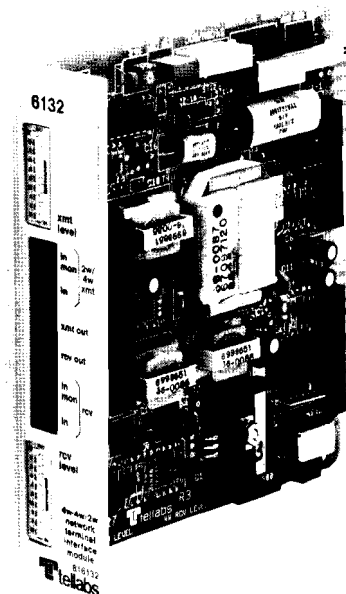

figure 1. 6132 2Wire-to-4Wire or 4Wire-to-4Wire
1.01 The 6132 2Wire-to-4Wire or 4Wire-to-4Wire Network Terminal Interface Module (figure 1) provides transmission interface between a 2wire or 4wire metallic facility and a carrier channel or PBX. Both adjustable prescription-set gain or loss and switch-selectable 2wire-to-4wire or 4wire-to-4wire operation are available. In addition, the 6132 accepts any plug-on Tellabs 6008X Signaling Converter subassembly to provide optional signaling conversion between a variety of facility-side signaling formats and terminal-side E&M signaling.